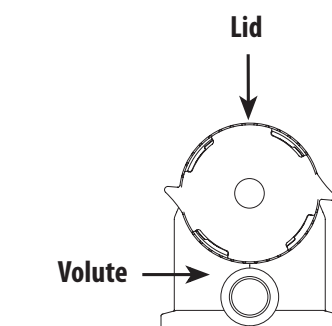

FIGURE 2
9. Make sure the lid O-ring is properly placed. Seat the lid then turn clockwise until hand tight (**DO NOT** over tighten with tools) (Figure 2).